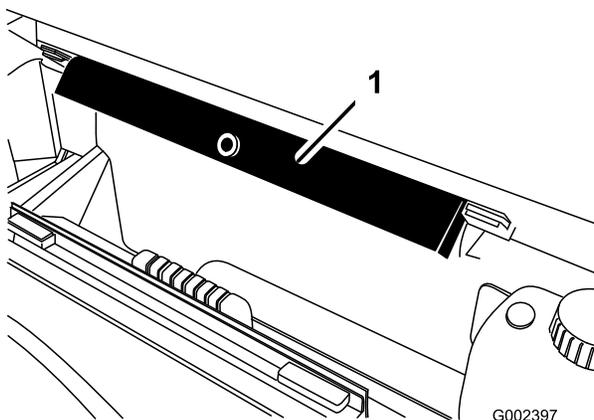

Figure 26
2. Remove the bed support from the storage brackets on back of the ROPS panel (Figure 26).